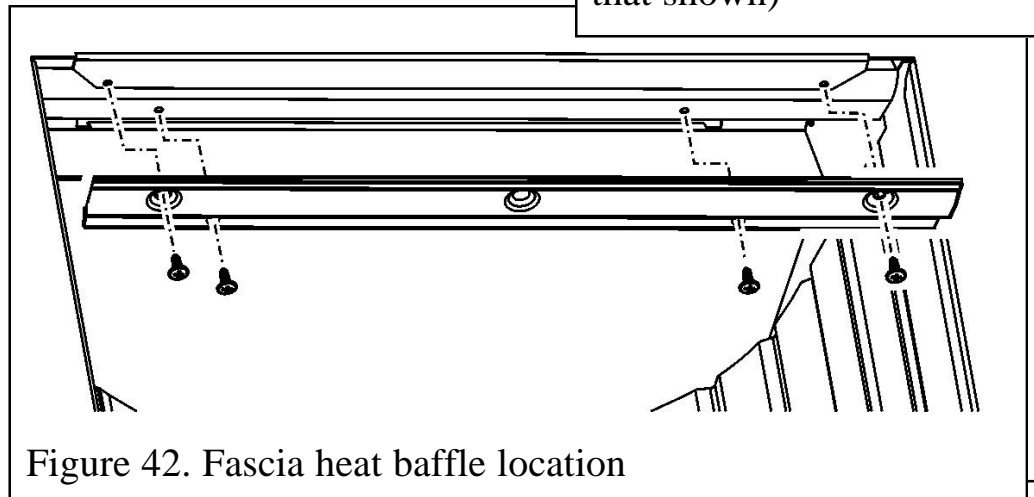

Figure 42. Fascia heat baffle location
1. *Visia model only.* There is a heat baffle that is screwed to the fascia and spillage plate (See figure 42). Unscrew and remove this heat baffle.